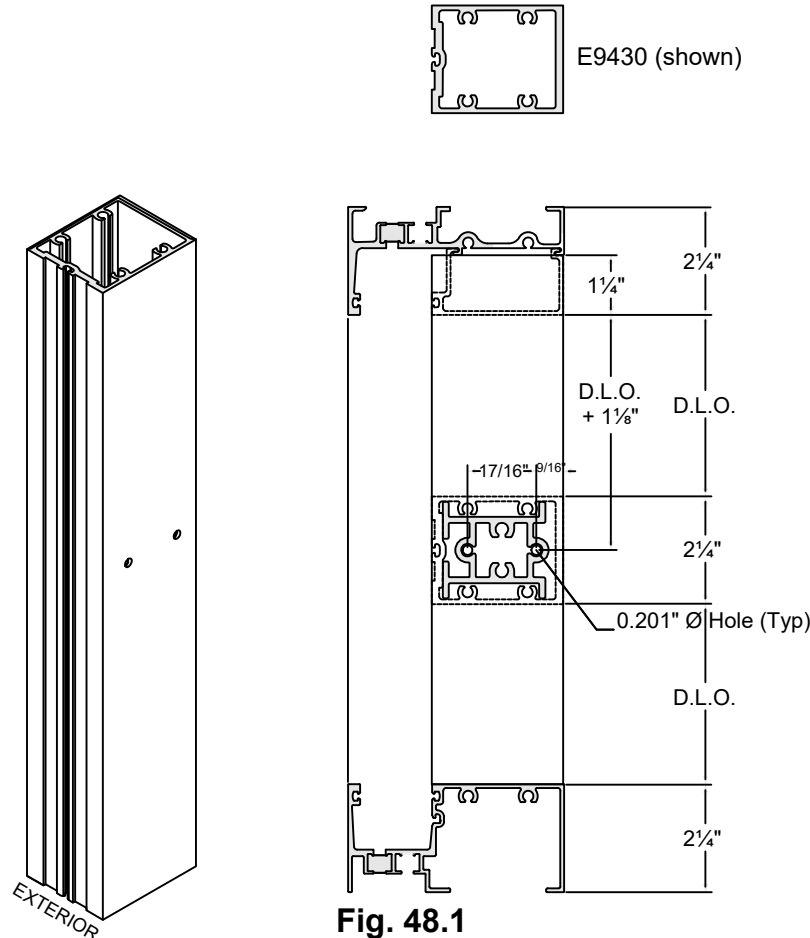

Fig. 48.1
A. Drill frame assembly holes in verticals and jambs. See Fig. 48.1